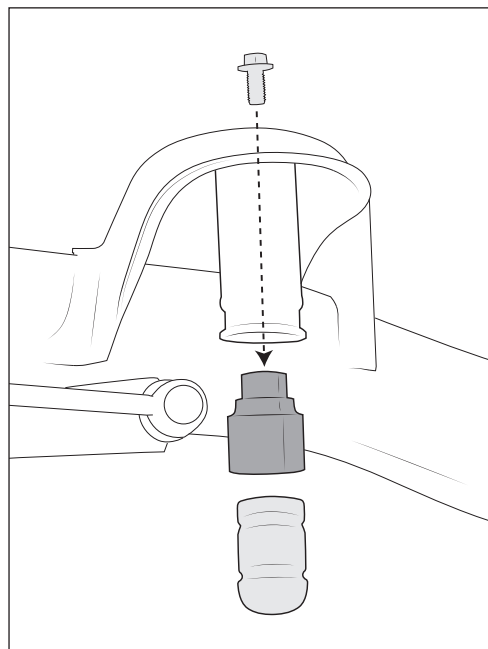

Figure 22
- C. Install extensions into factory bumpstop mounts. Using magnet or socket extension, install M12x25 flange bolt from top of spring tower (Fig 22). Torque bolts to 40 ft-lb